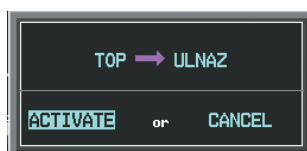

Figure 5-114 Confirm Active Leg
- c) Select the **ACT LEG** Softkey. The confirmation window is now displayed as in Figure 5-114 Note the TOP to SLN leg is actually part of V4.